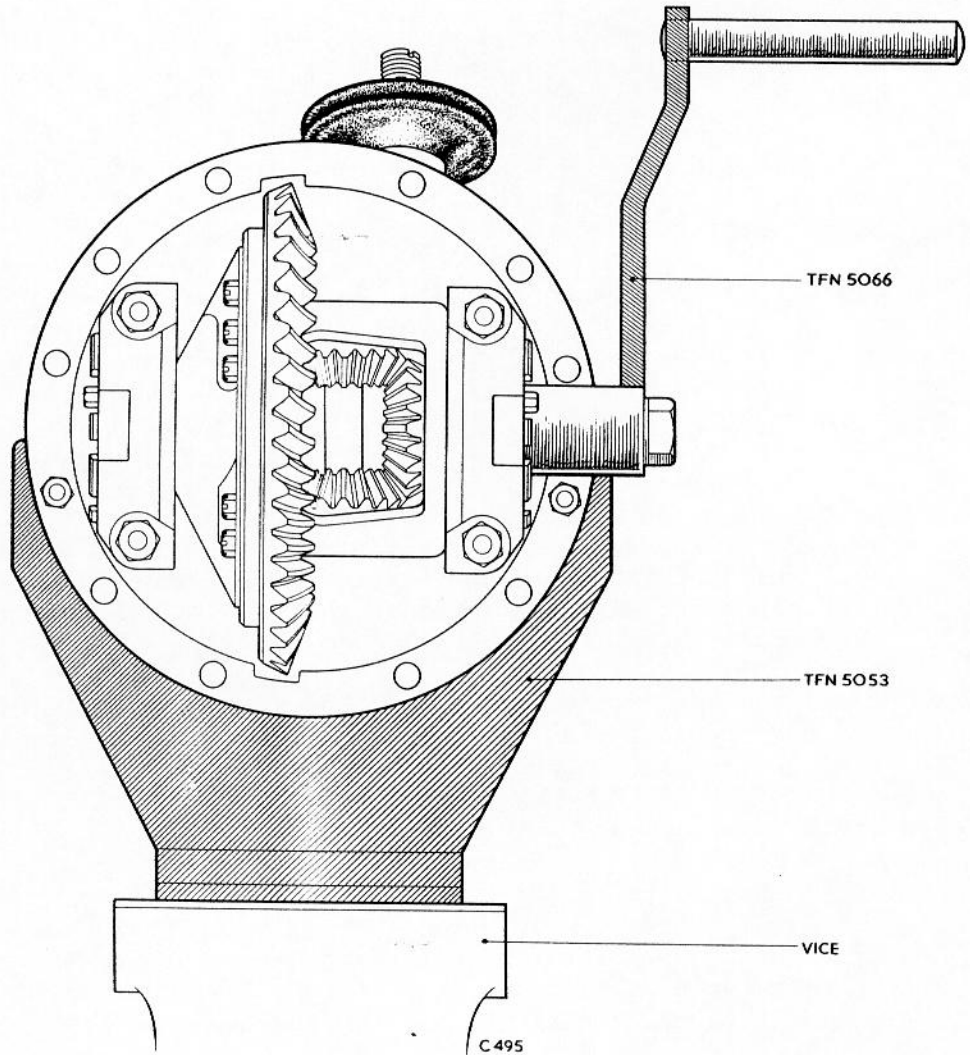

Fig.17 Tools for checking crown wheel backlash.
1. Locate and bolt the complete assembly with fixture TFN.5053, see Fig.17.
8. With the handle TFN.5066 inserted into one side of the crown wheel mounting as shown in Fig.17, check the backlash.